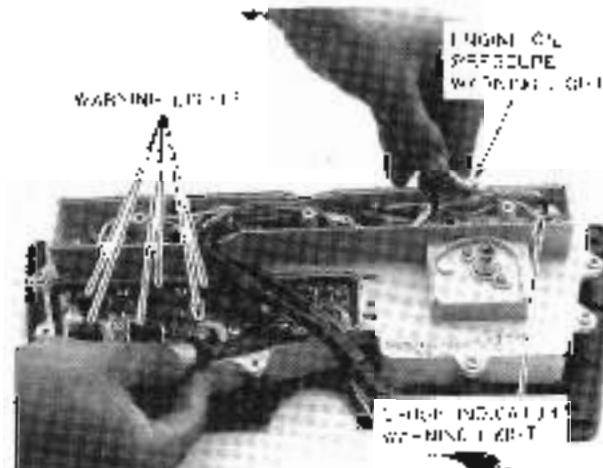

Figure 63 - Changing Bulb of Warning Light
2. Loosen the lock nut (Figure 63), and rotate the cable until the clearance between the two is $\pm 20-30$ mm ($0.79-1.18$ in.) of pedal free play.